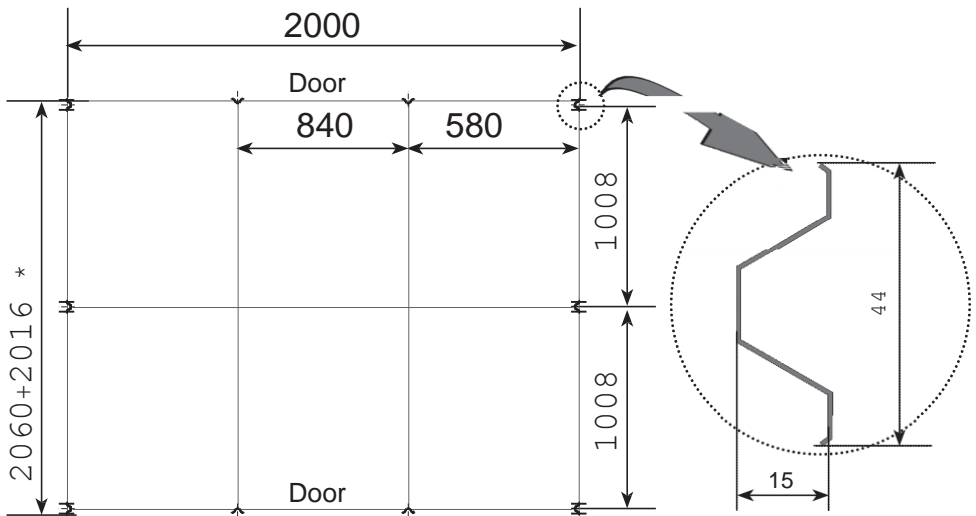

Fig. 3. Greenhouse foundation support layout plan
3. Use support layout plan to install the greenhouse on a foundation (Fig.3).